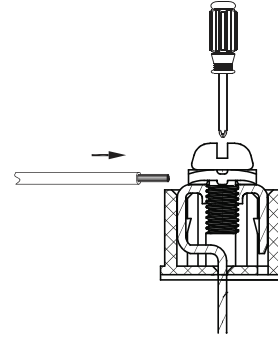

Fig. 18 — Connecting Communication Wire to Outdoor Unit Communication Terminal
3. Use a suitable screwdriver to fix the communication wire on the outdoor unit communication terminal as shown in Fig. 18 below.